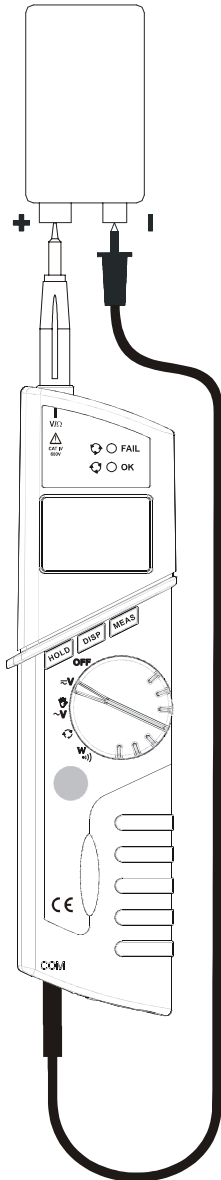

Fig. 3: DC voltage measurement
2. Insert the black test lead in the **COM** jack and the red probe in the V+/ $\Omega$  jack (Fig. 3).
5. Should you get a symbol "-" it means that the detected voltage has an opposite direction compared to the connection shown in Fig. 3.